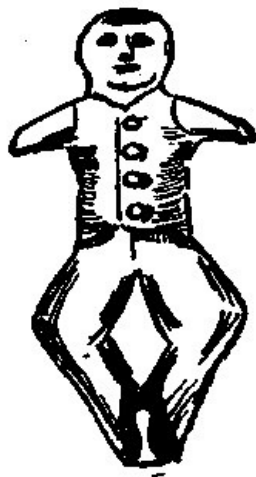

Fig. 111.
**243. Fancy Electroscope.** Fig. 111. Fold a piece of stiff paper double, then cut out some fancy-shaped figure, as suggested, and draw the face, clothes, etc., to suit. This being folded through the center for cutting, it can be balanced upon a pin-point as explained in App. 138.